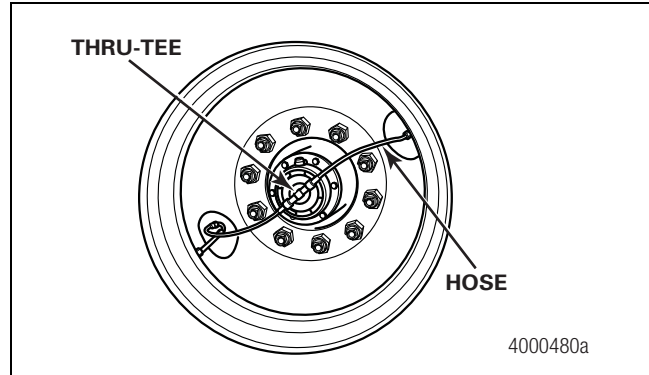

Figure 3.27
9. Check the wheel ends to verify that the tire inflation system hoses do not contact the wheels. Figure 3.27.